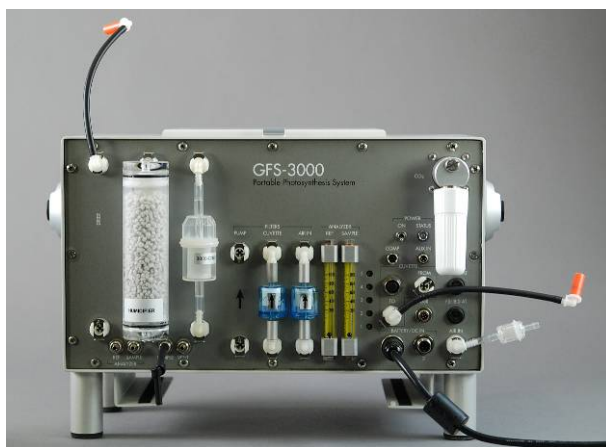

Fig. 59: Set-up of the GFS-3000 for H₂O span calibration with GFS-Win version 3.31 or higher.
- Close three openings: The upper connector labeled DRIER, the connector CUVETTE TO and the outlet labeled SAMPLE. Fig. 59 shows one possibility, how this could be done.